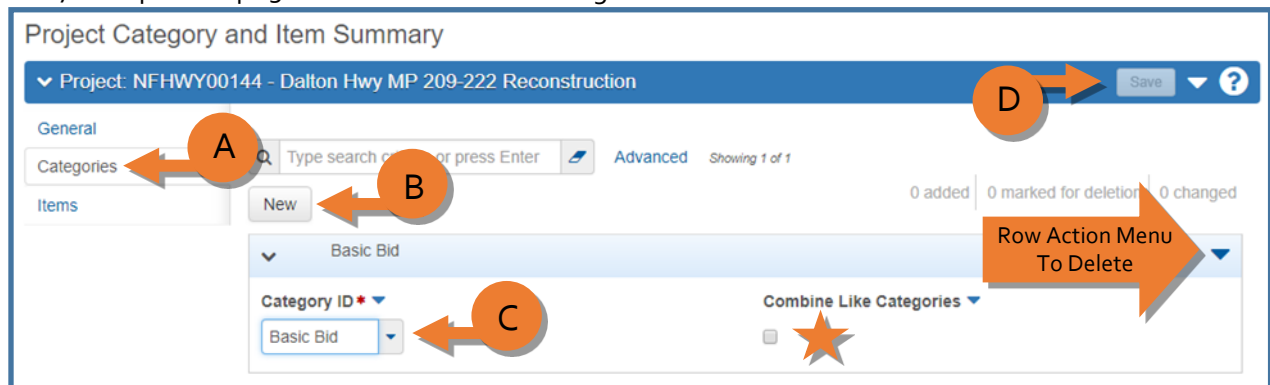

Figure 18.4
The Project Category and Item Summary component will appear (*Figure 18.4*).
8. Expand the **row actions menu** on the right side of the category record and select **Delete** (see *Figure 18.4*). The category is marked for deletion and users may “undo”  the action until the user clicks **<Save>**.